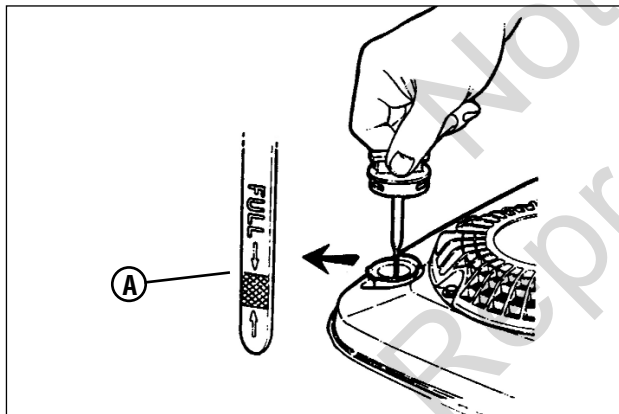

Figure 2: Checking engine oil
4. Check the engine oil and add oil as needed to bring the level up to the full mark (**A**, **Figure 2**). Refer to the Engine Owner's Manual for oil specifications.